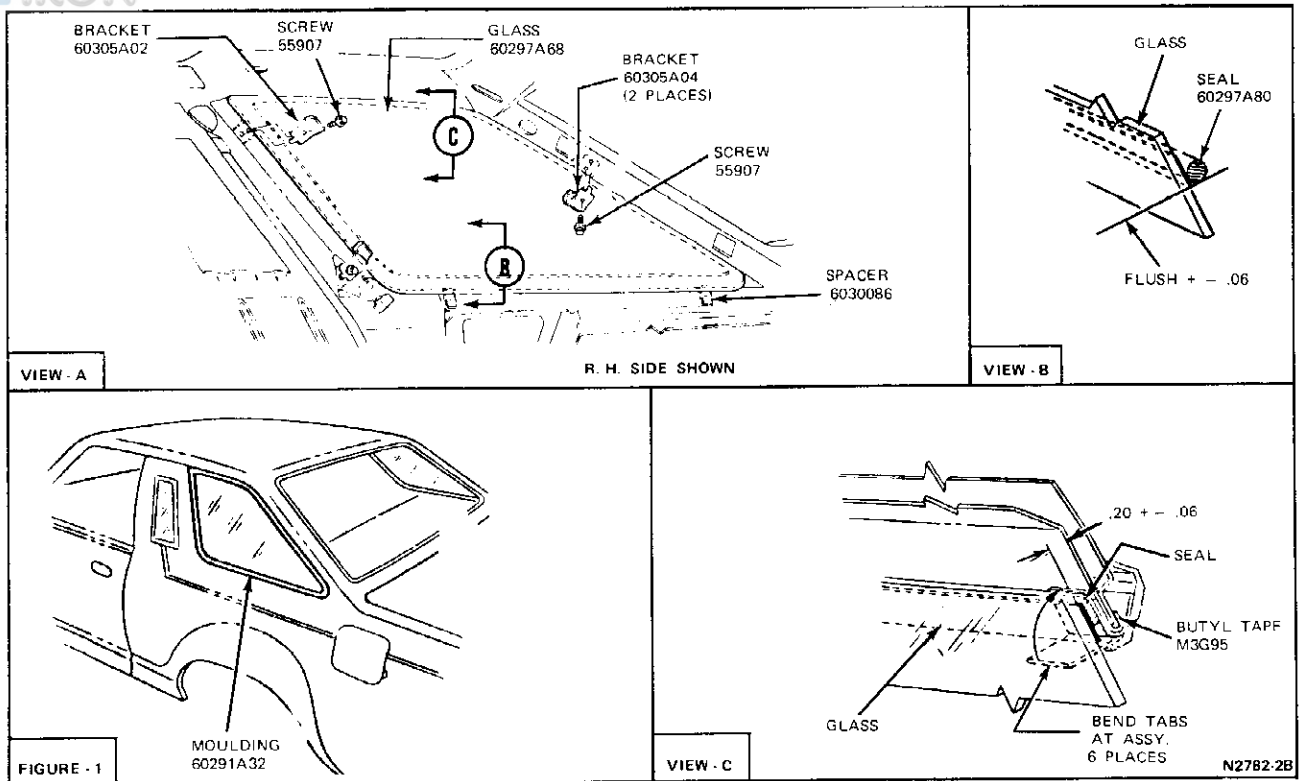

FIG. 2 Stationary Quarter Window Installation—Thunderbird
1. Loosen the two screw and washer assemblies attaching the quarter window glass bracket upper support assembly to the quarter inner panel (Fig. 2).